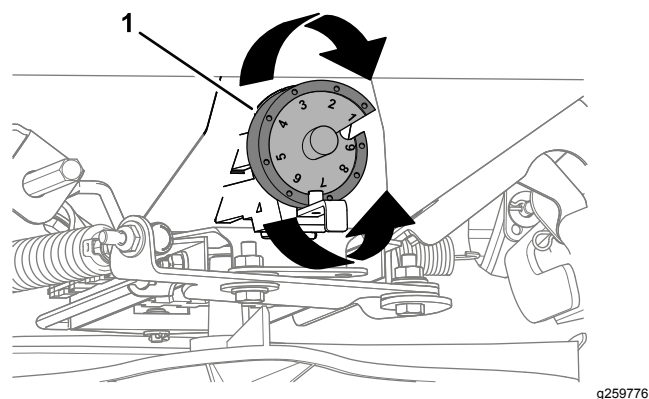

**Figure 21**
2. Place the remaining pans in a straight line as shown in Figure 20 or Figure 21.
Place 6 additional pans, on each side, with no gap in between each pan (Figure 21).
6. Label each graduated measuring cylinder to correspond with the distribution pans (such as L2, L1, Center, R1, R2); refer to Figure 20 and Figure 21.